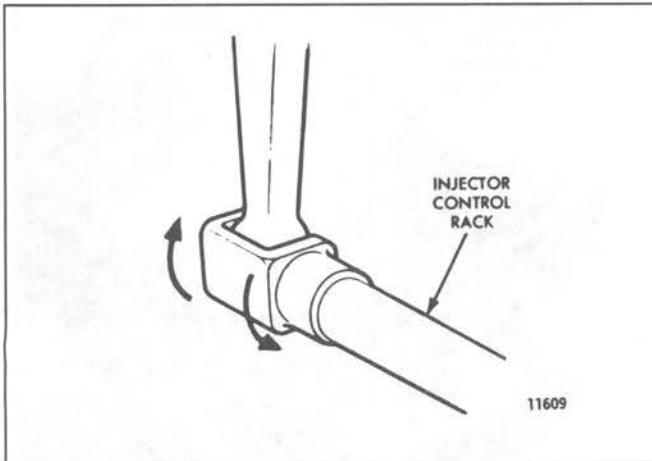
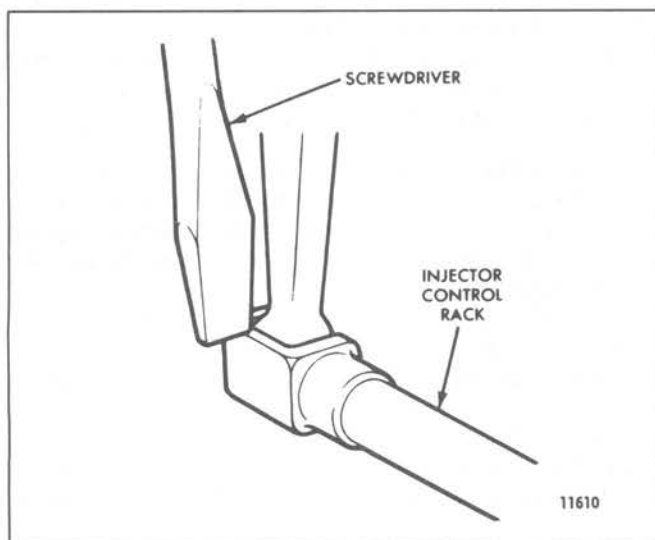

Fig. 10 – Checking Rotating Movement of Injector Control Rack
Fig. 11 – Checking Injector Control Rack “Spring”
7. To be sure of the proper rack adjustment, hold the speed control lever in the *maximum speed* position and press down on the injector rack with a screwdriver or finger tip and note the “rotating” movement of the injector control rack (Fig. 10). Hold the speed control lever in the *maximum speed* position and, using a screwdriver, press downward on the injector control rack. The rack should tilt downward, and when the pressure of the screwdriver is released, the control rack should “spring” back upward (Fig. 11).